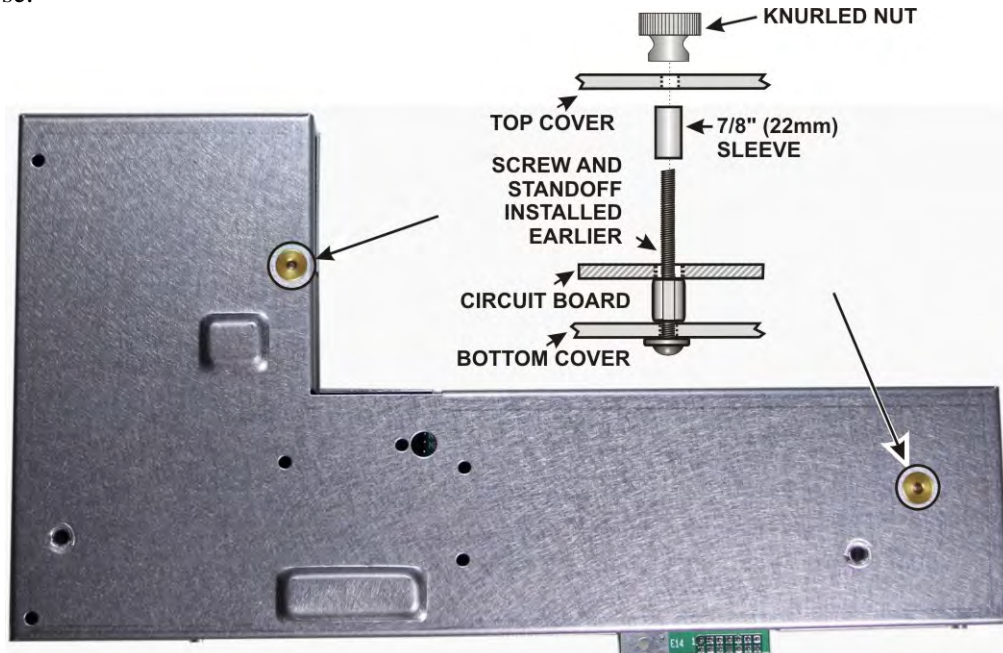

Figure 42. Installing the Shield Top.
□ Locate the subreceiver RF module top cover. It has a label with places to record the bandwidth (BW), and frequency offset (FRQ) of each filter. Copy the information from Table 1. Note that the filters read right to left on the label, just as they were installed on the pc board. Place a check mark by Sub (for subreceiver) on the label. Use pencil in case you change your filters later. The label also has a row for Gain. This is a value you can determine after your installation is finished. It is a value set in the K3's MENU to adjust the overall gain for each roofing filter so the audio remains constant when switching from one filter to another. Making this adjustment is described under *Filter Loss Compensation* in your owner's manual.
□ Place a 7/8" (22 mm) unthreaded sleeve over each of the long screws so they rest against the top of the circuit board (see Figure 42), then place the top cover over the assembly and adjust its position so the edge of the top fits inside the bottom and rests against the KRX3 main board on all sides. The long screws will pass through holes in the top cover. Secure the top with knurled nuts tightened only enough to hold the cover in place so it isn't loose.